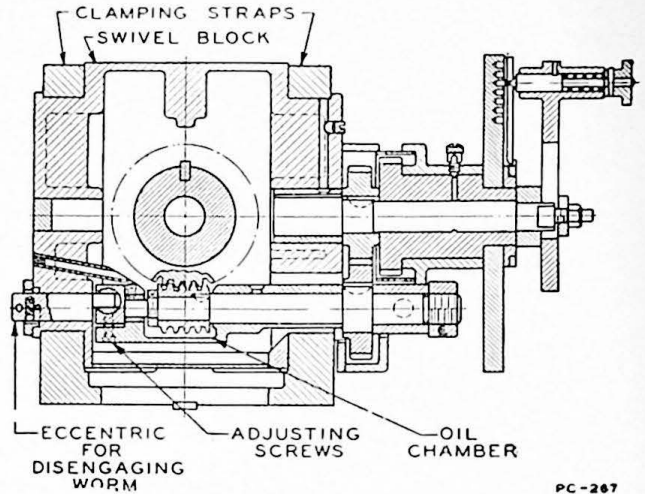

Figure 38
Plain Indexing with the Front Plate. Direct indexing is often used for making the divisions listed in the following table because it is faster than indexing with the side plate through the 40 to 1 worm reduction. To change the dividing head into plain index centers, turn the eccentric for disengaging the worm (Fig. 38) through half a turn. The worm is then disengaged and indexing is accomplished by turning the spindle by hand.
1. See that the worm is engaged with the worm-wheel (Fig. 38).
2. Remove the back-lash from the worm by tightening the locknut on the end of the worm shaft (Fig. 38).